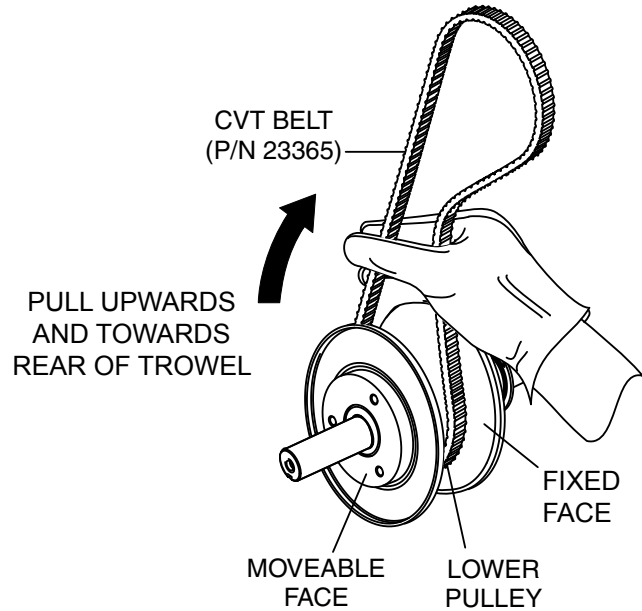

Figure 29. Holding Lower Pulley Open
1. Place new CVT belt over the lower pulley. Squeeze the belt (Figure 29) and pull the belt upwards and towards the rear of the trowel. This will spread open the faces of the lower drive pulley.